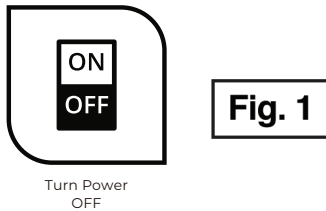

Fig. 1
1. Turn off the switch and circuit breaker before installing the LED luminaire. (See Fig. 1)